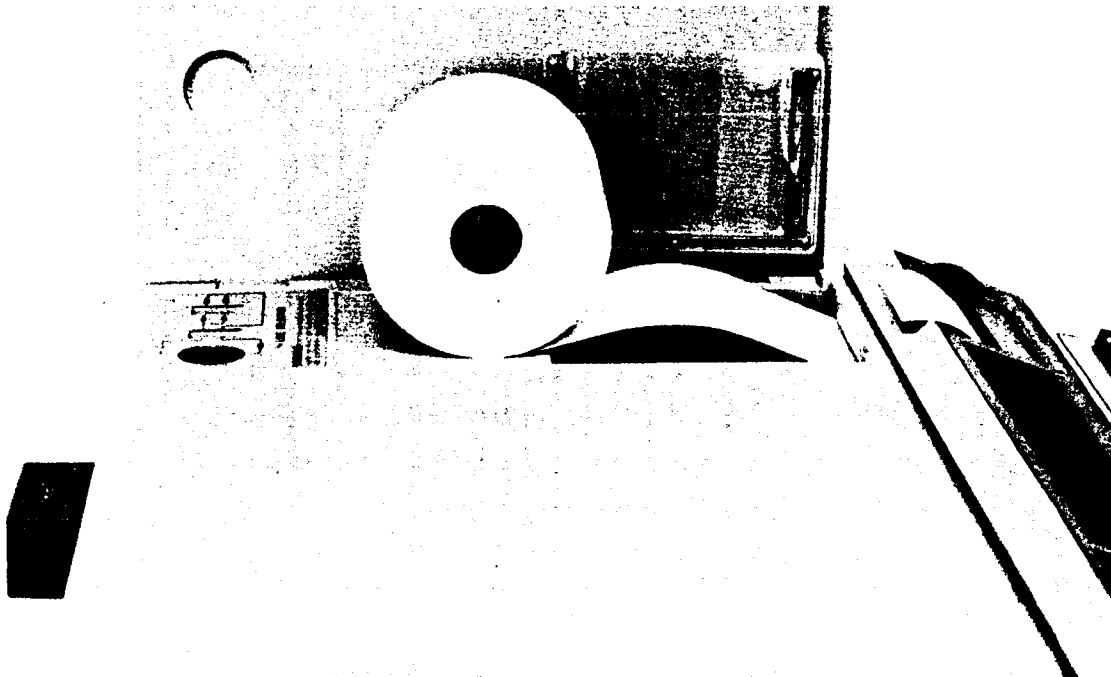

Figure 1-5 Loading Printer Paper
- Position the spindle in the guides so that the paper will unwind from the bottom of the roll (see Figure 1-5).